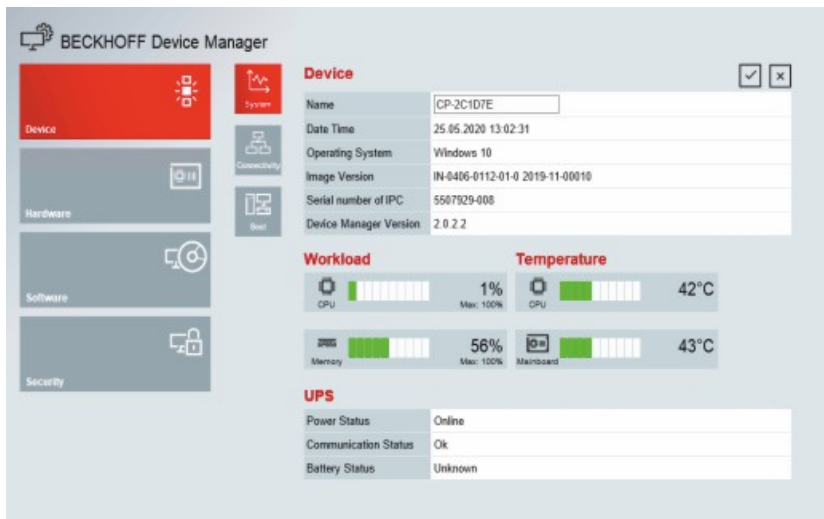

Fig. 23: Beckhoff Device Manager – Start page
2. Lift the PC far enough so that the fastening screws slip into the keyholes (see fig. 23).